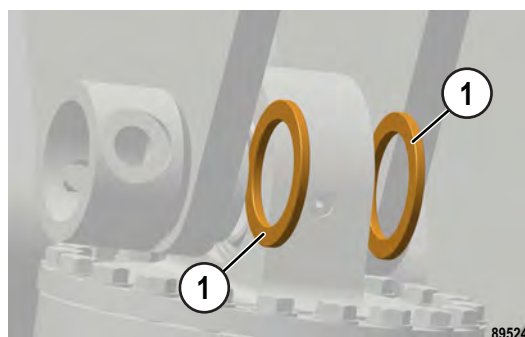

FIGURE 50-45. BEARING SPACER REMOVAL
10. Remove two bearing spacers (1, Figure 50-45) between the upper cylinder bearing and upper pivot structure.